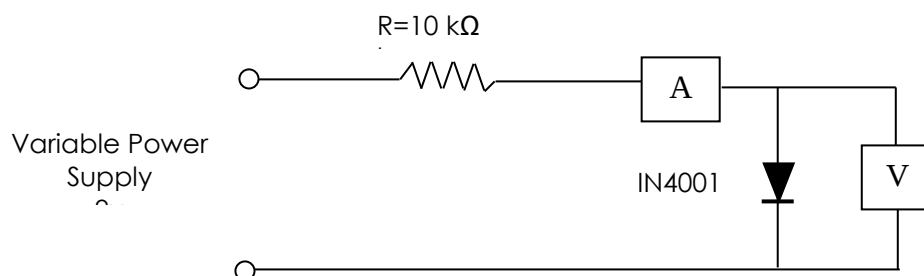

Figure 1.2
1. Connect the circuit as shown in **Figure 1.2** below.